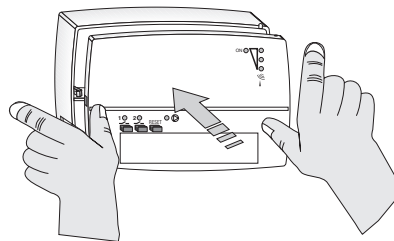

Fig. 9.i
- Push the front on to the base using both hands as shown in figure 9.i, until the catches click and lock the front to the base.
- Carefully reclose the receiver (fig. 9.i - fig. 10.i).
- Hold down **1/—** key until a single acoustic signal sounds; then release it: **LED 1** is flashing (fig.9).The new transmitter is coupled to the receiver.